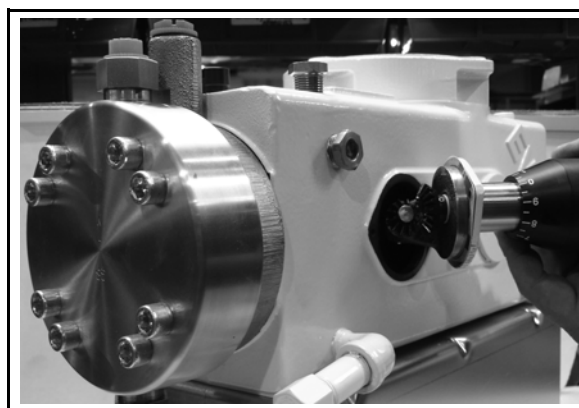
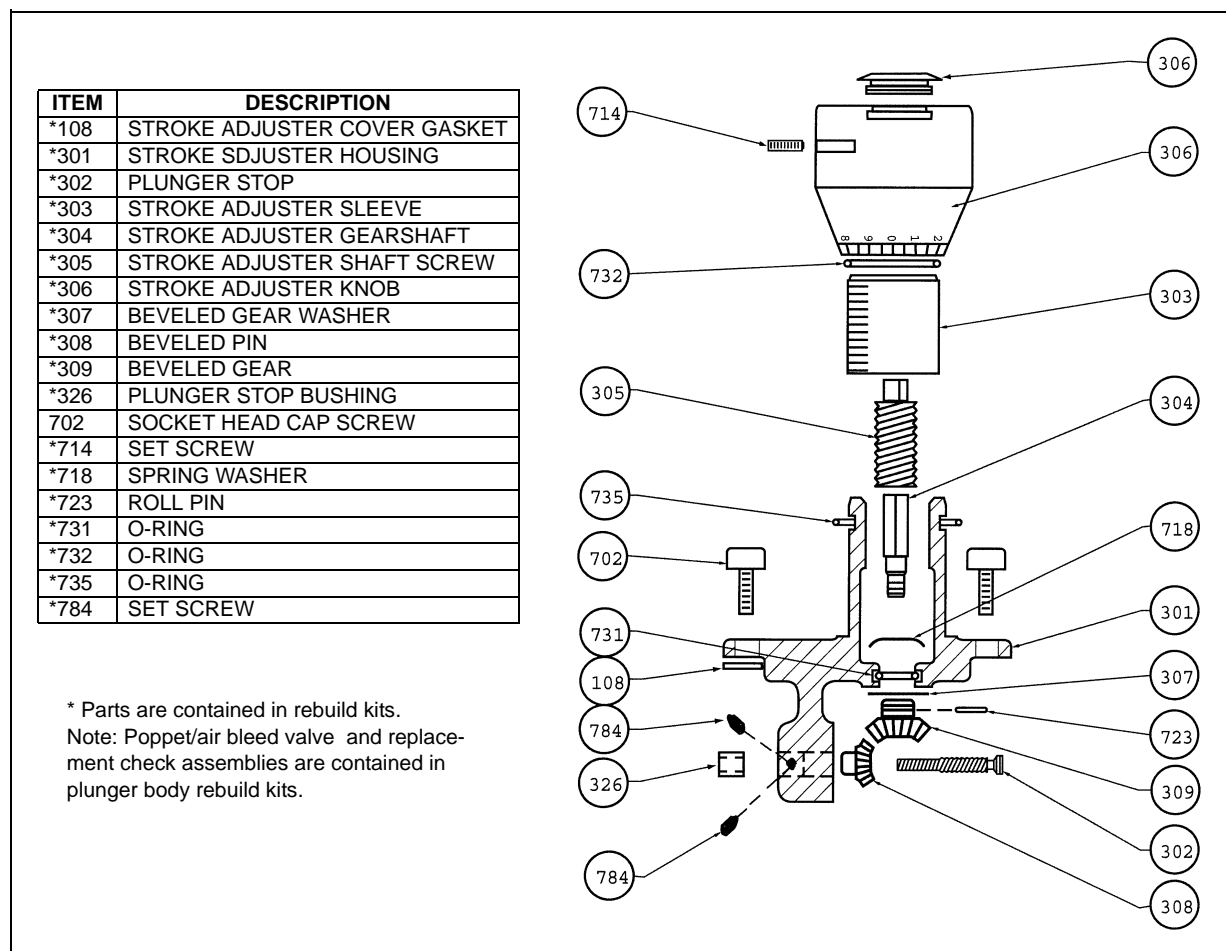

Figure 17. Stroke Adjuster Housing.
Figure 18. Manual Stroke Adjuster.
- Detach the housing by removing the two (2) cap screws and retract the assembly (See Figure 17). See the breakdown of the assembly in Figure 18.